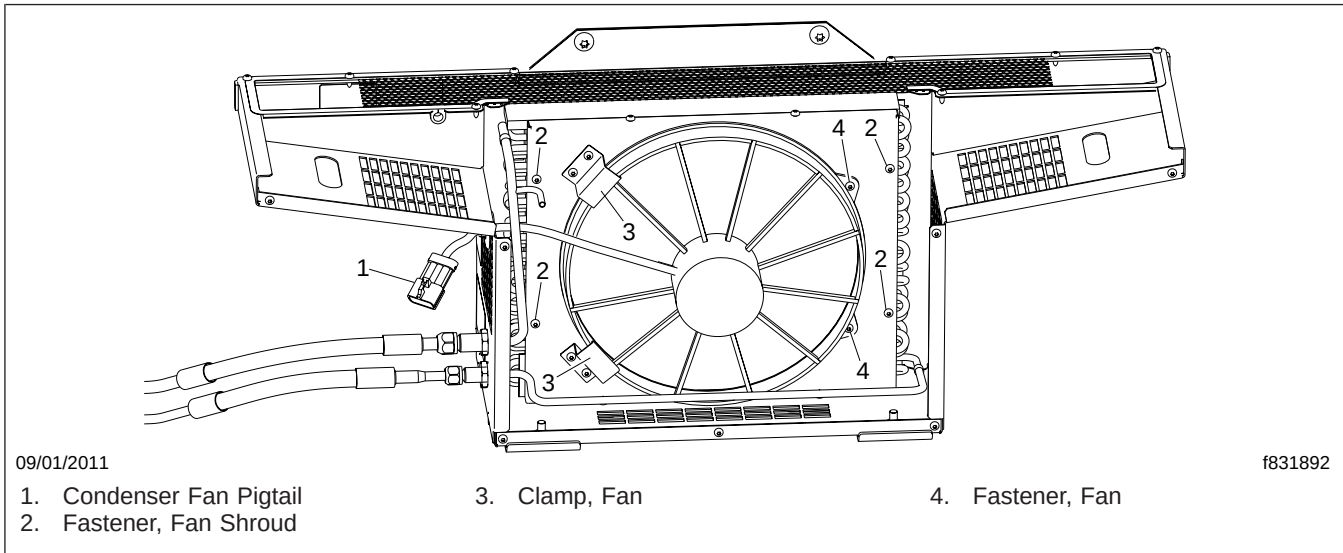

Fig. 5, External Condenser Fan Installation
4. Remove the cover from the condenser housing. See Fig. 5.